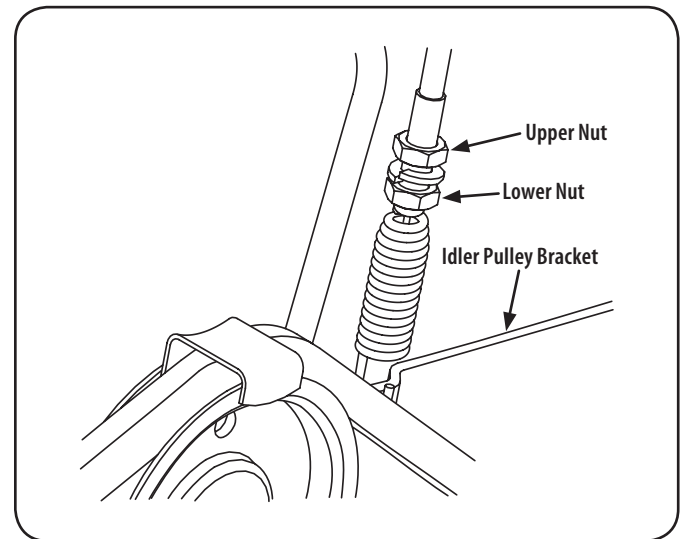

Figure 30
2. Locate the spring at the end of the cable. See Figure 30.